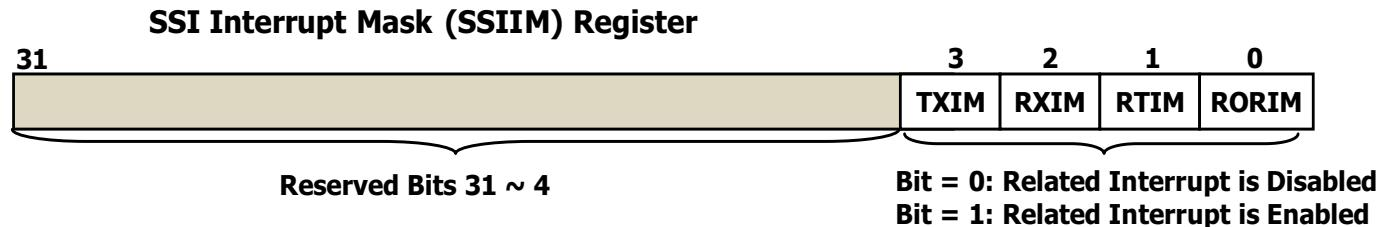

Figure 8.16 The bit field and value in SSIIM register.
- Figure 8.16 shows the bit field and functions of the **SSIIM** register. Table 8.7 shows the bit value and its function of this register.